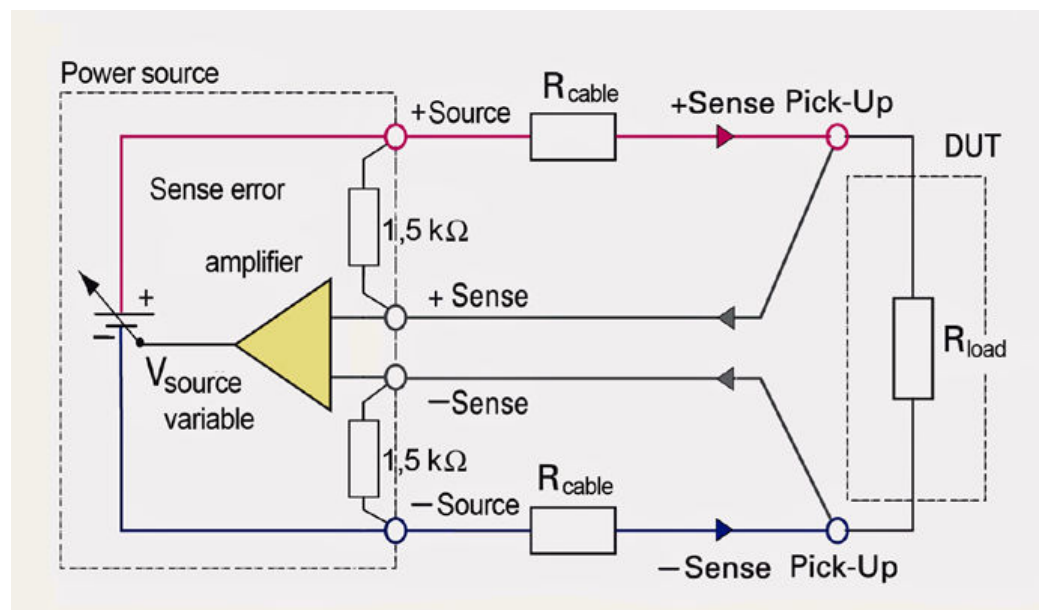

Figure 5-1: Circuit for compensating voltage drops
2. Connect both cables to the DUT connectors of the source lines, as shown in Figure 5-1